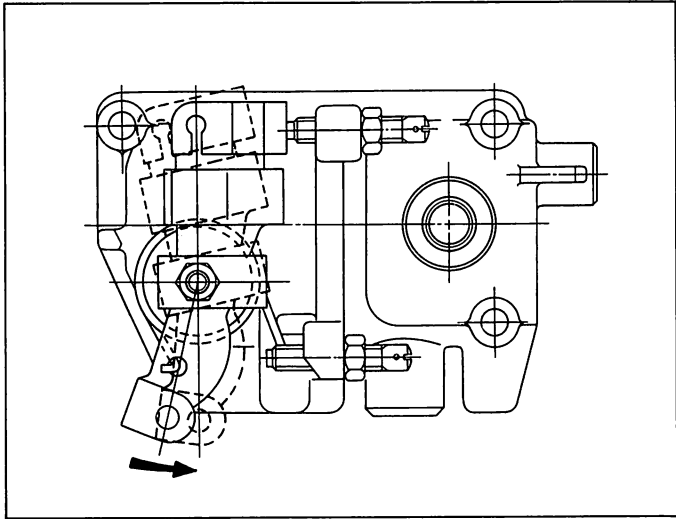

Fig. 97 Control lever installation position
**Note:** The control lever should be installed in a vertical position or positioned toward the maximum speed position when tension is first felt in the governor spring. (Fig. 97)